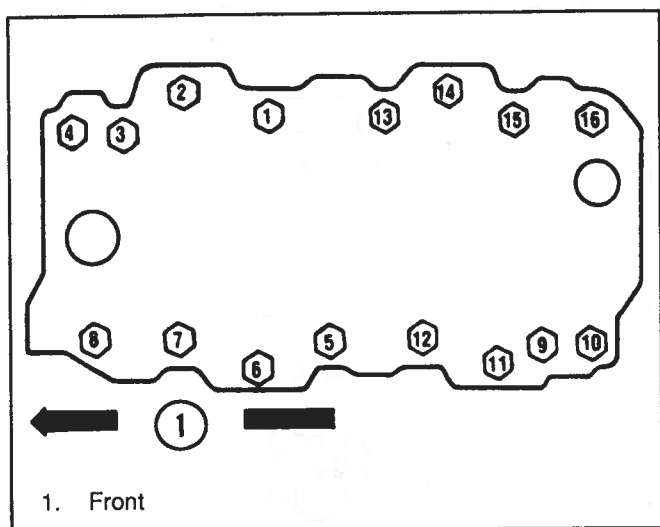

Figure 8-111. Intake-Manifold Torque Sequence
3. Carefully install the manifold assembly, and torque bolts to specifications in sequence indicated in Figure 8-111.